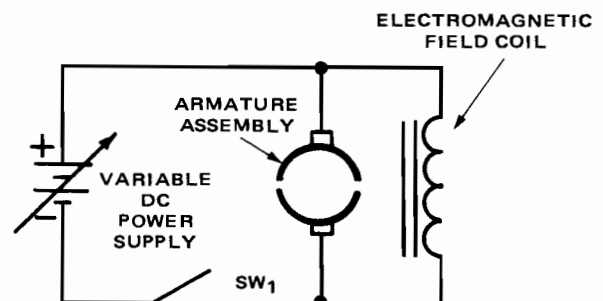

Fig. 12-3-1
6. Connect variable dc power supply and circuit switch to motor as shown in Fig. 12-3-1.